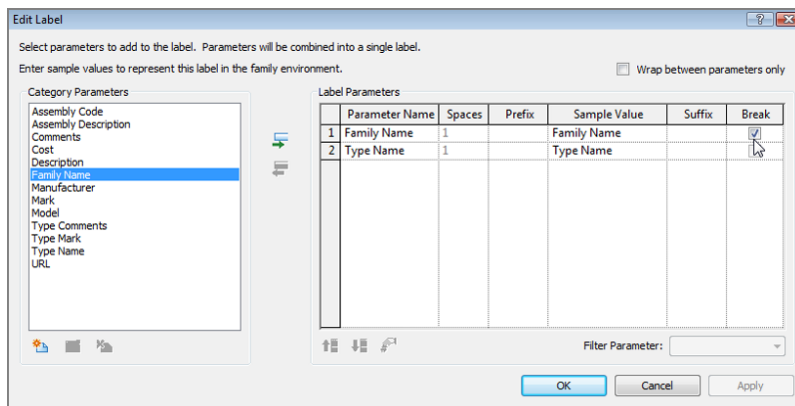

FIGURE 11.80: This time you're adding two parameters. By selecting the Break check box, you tell Revit to stack the parameters.
6. In the Edit Label dialog box, add the Family Name and Type Name parameters, as shown in Figure 11.80.
7. In the Family Name row, select the Break check box (see Figure 11.80).